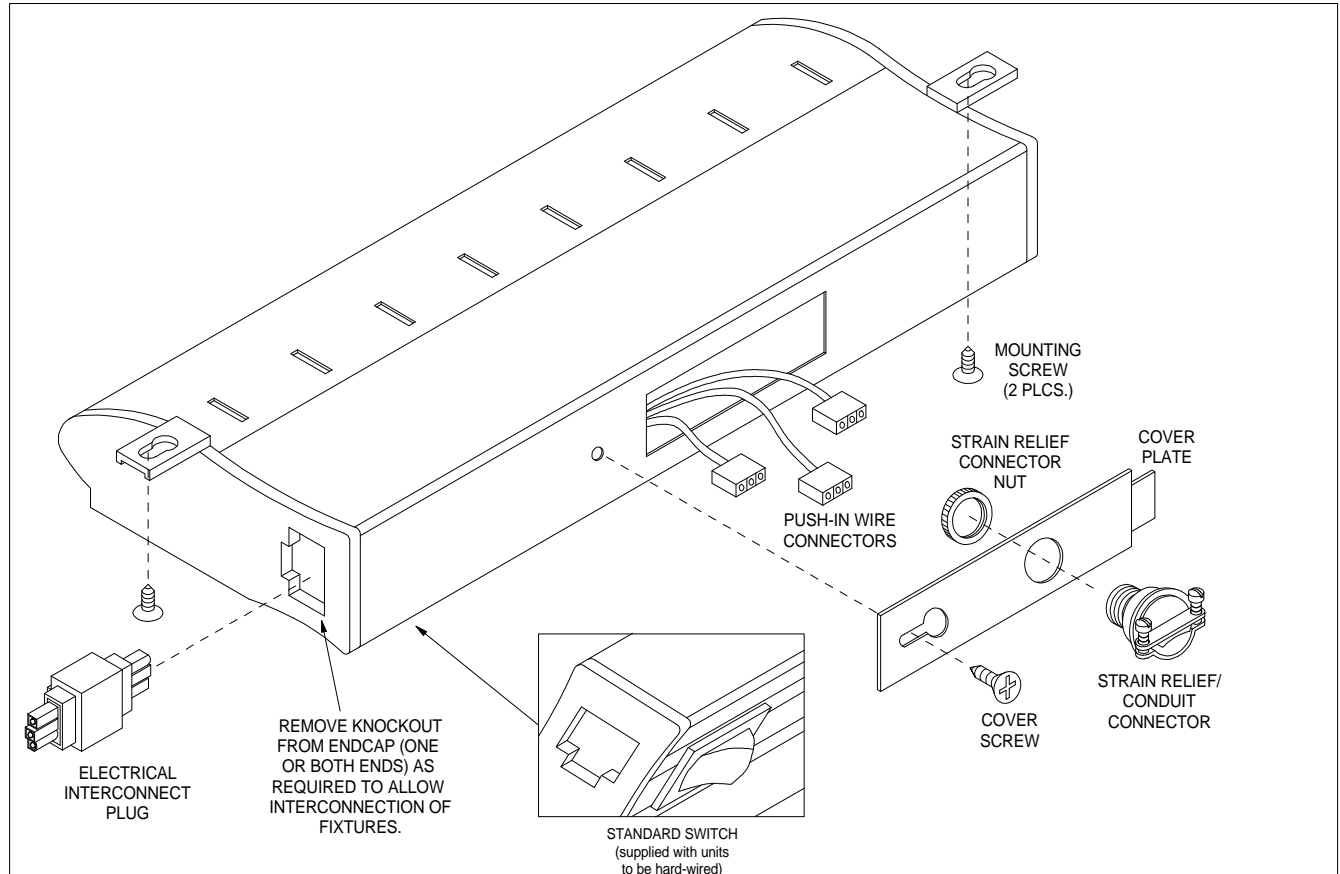
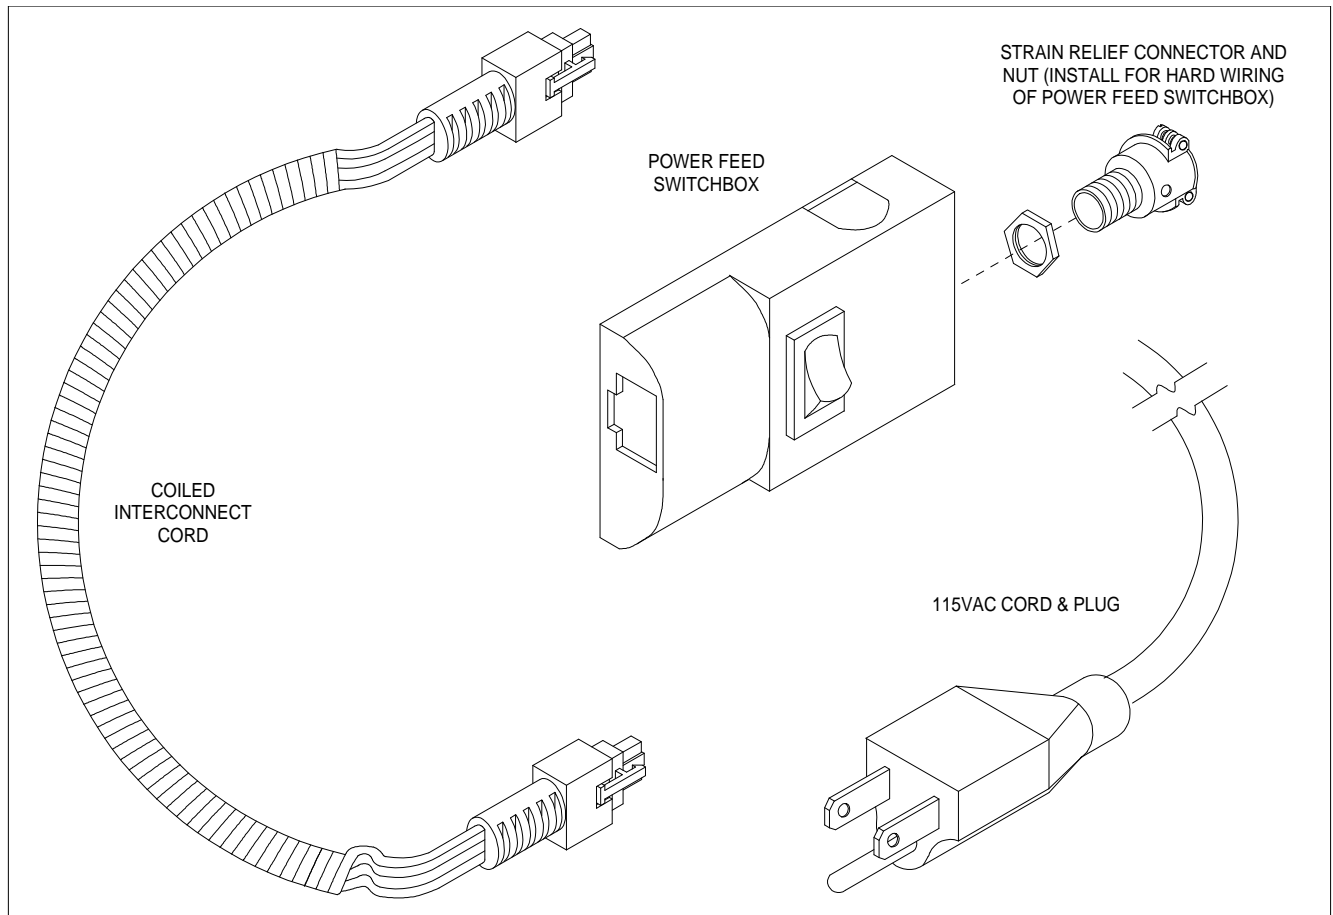

Figure 1
Figure 2
Alkco HALOGEN 120 fixtures are designed for modular plug-together connection. The first fixture may be rear-supplied hard-wired with the provided hardware, or remote wired through the use of the optional power feed accessories (Figure 2). Additional fixtures simply plug into the first with the interconnection plug (Figure 1) for flush-end mounting. Optional straight and coiled interconnect cords electrically continue a run of luminaires around corners or across gaps.
The hardware for mounting a hard-wired fixture is supplied with your unit. It is shipped in two separate bags and is illustrated in Figure 1.
The Alkco fixtures are designed to be individually mounted or row mounted by plugging into each other. The connection to AC power can be hard-wired or plugged in with an optional remote AC power feed (Figure 2). Conduct the following procedure to mount a single fixture or the first one in a string of multiple fixtures.
Note: If multiple fixtures are to be mounted end-to-end and electrically connected with only the interconnect plug (Figure 1), they must be precisely mounted in a straight line. Otherwise, electrical contact may be marginal, resulting in unreliable operation.
1. Remove the cover plate from the back of the fixture housing (Figure 1).
5. Install the cover plate on the back of the fixture and secure it as shown in Figure 1.
The power feed switchbox receives its electrical supply either through a cord and plug, or through hard wiring installed in the field. To facilitate hard wiring, install the FMC/Romex strain-relief connector as indicated in Figure 2. Remove two Phillips screws from the back of the power feed switchbox to open the back cover. Securely install wire nuts on all electrical connections. If hard wiring